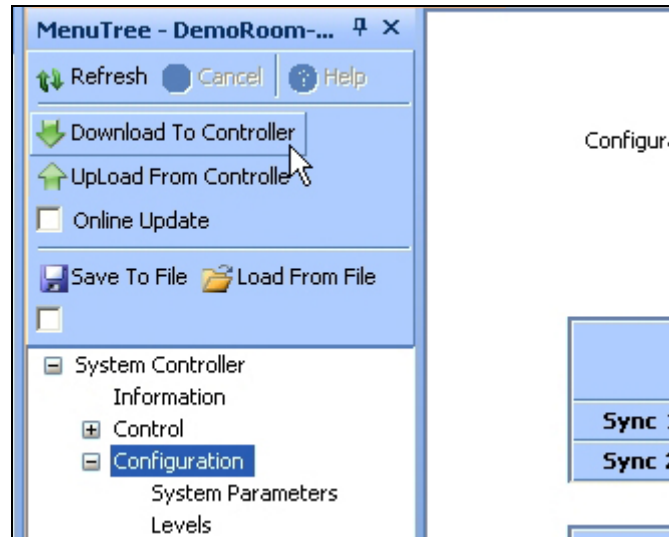

Figure 9. Download to Controller Command
10. Click the “Download To Controller” button as shown in Figure 9. You will be prompted with a dialog box to verify the requested action.